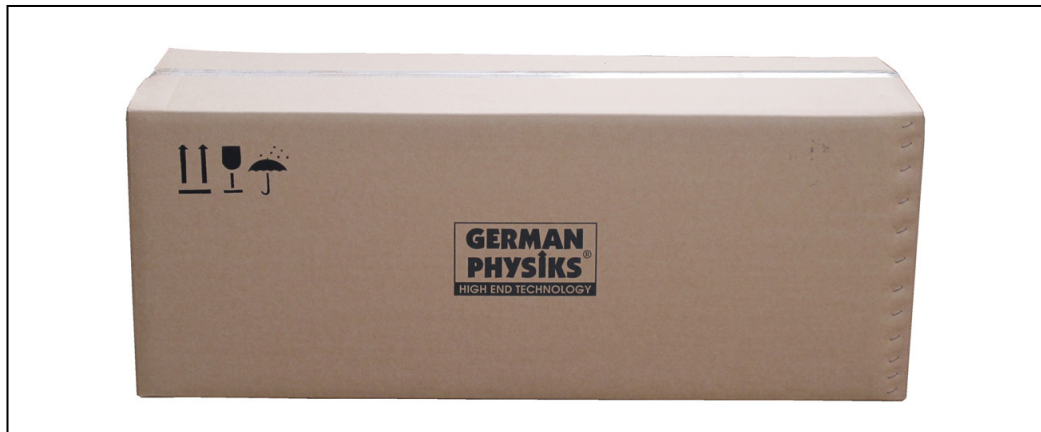

Figure 1. Limited 11 Shipping Carton
The Limited 11 is supplied with each loudspeaker packed separately in a double carton. This must be kept horizontal as shown in figure 1. Before opening the cartons, please inspect them for damage. If you see any damage, please contact the supplying audio dealer immediately and provide them with a full description of the damage. Do not attempt to unpack the loudspeakers until you have spoken with the dealer and have been advised how to proceed.
1. Place the carton upright as shown in figure 1 and carefully cut the sealing tape.